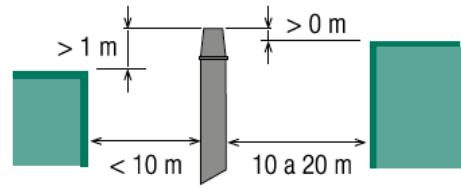

Figure 10.4
- On roofs with obstacles, at least one of the conditions indicated in figure 10.4 must be met.